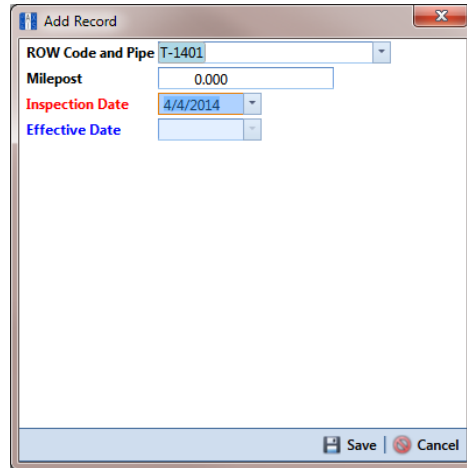

Figure 7-14. Add Record
- c Click  **Save** to display required field(s) for data entry (Figure 7-14).